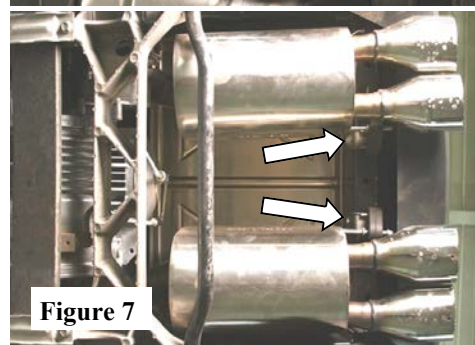

Figure 7
2. Place a clamp over each expanded ends of each Over-Axle Pipe. Starting with the R/H Muffler Assembly, and insert inlet into R/H Over-Axle Pipe and carefully insert hangars into runner isolators. Repeat step for the L/H Muffler Assembly. (See Fig. 7) **DO NOT TIGHTEN HARDWARE.**